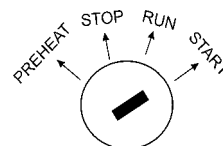

Figure 41. Ignition Switch 'START'
8. Once the preheat indicator lights, turn the ignition key to 'START' until the engine starts (Figure 41). Then release the key to 'RUN'.